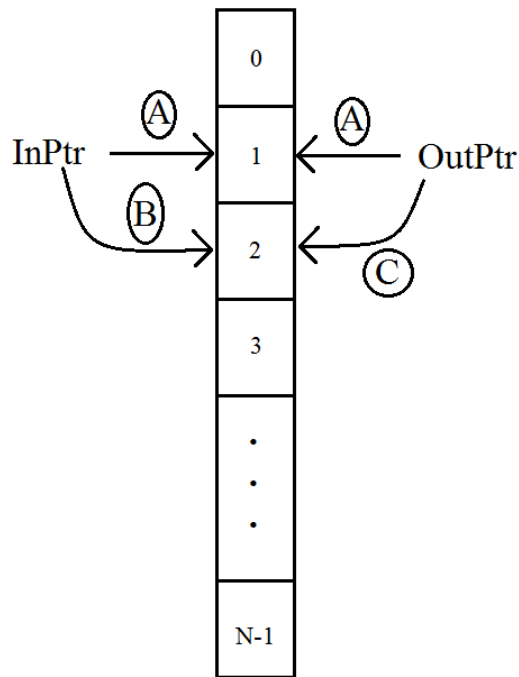

Figure 2. Rolling Buffer Graphic.
is to be inserted and extracted. This arrangement is shown graphically in Figure 2. with an array of N elements (0 to N-1) and then to variables that point to the in and out locations. Now when the two pointers are the same (A), that means there is no data in the buffer. Once data is available, it can be written to the location indicated by InPtr, InPtr is incremented and this will indicate that the buffer now contains data to be processed (B). The part of the code that handles the processing of data can see that the pointer are not equal, pull out the data out of the location indicated by OutPtr, and OutPtr is incremented (C). One final note, when InPtr or OutPtr are incremented and reach the value of N, they should be set back to zero.